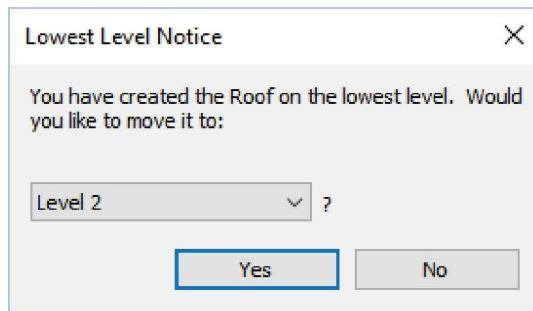

FIGURE 2-4.2 Roof is on the Lowest Level prompt
Revit notices that you are on Level 1 and asks you if you want to move the roof to another level. In our case we want to move it to Level 2 (Figure 2-4.2).
4. Make sure **Level 2** is selected and click **Yes** (Figure 2-4.2).